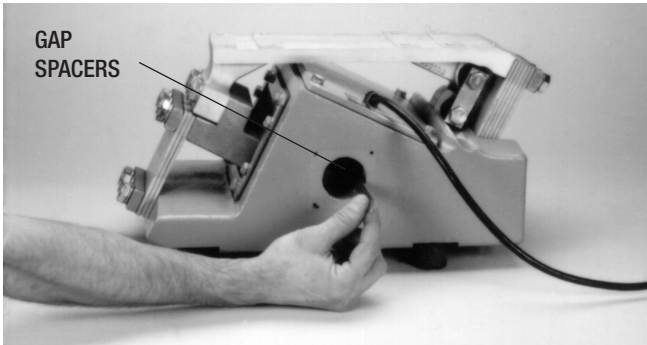

FIGURE 4
Refer to the Parts List Drawing and Figs. 4, 5, 6 & 7
1. Remove both nameplates and insert the gap spacer (furnished with the unit) between the E-frame center leg and the armature pole pieces (see Figure 4 & 5).
Refer to the Parts List Drawing and Figs. 4, 5, 6 & 7.